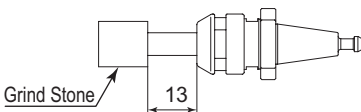

Fig. 20
- ① The proper surface speed for general grindstones is 600 - 1,800m / min.
- ② Do not exceed 13mm of overhang for mounted grindstones as shown in Fig. 20. If the overhang must exceed 13mm, reduce the motor speed in accordance with Table 2.
- ③ Dress the grindstone prior to use.
- ④ Do not use cutting tools with bent or broken shanks, cracks or excessive run-out.
- ⑤ For grinding, the maximum depth of cut should not exceed 0.01mm radially or axially. Reciprocate the tool several times after each pass to eliminate tool pressure.
- ⑥ Always operate tools within the allowable recommended speed of the tools. Use of a tool outside of the allowable speed of the tools could cause damage to the spindle and injury to the operator.
- ⑦ Keep the tool shank and collet chuck clean. If contaminants are left in the collet chuck or chuck nut, excessive run-out will cause damage to the tool and or spindle.
- ⑧ Do not strike or disassemble the spindle.
- ⑨ Please set the tools to minimize the overhang amount. 13mm is the maximum amount of overhang to maintain high accuracy and safety.